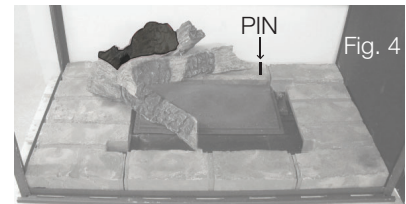

Fig. 4
- Place log #4 onto the pin located in log #2 and let it rest on log #2, as shown in Figure 4 and in the left side view. Place one pin into the left side hearth pad (**FIG.4**).